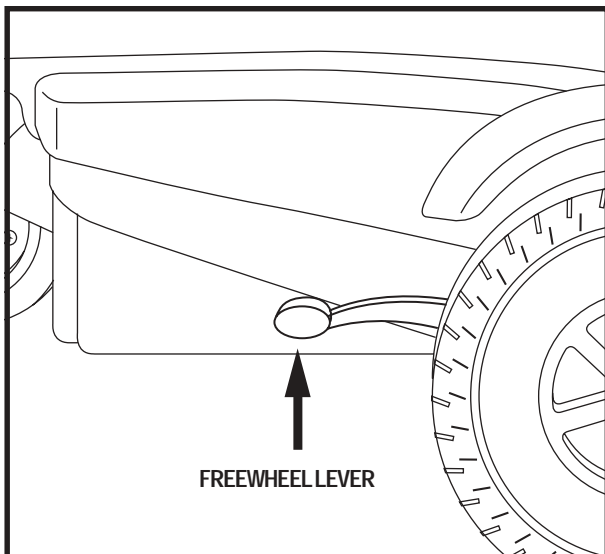

Figure 11. Drive Mode (Drive Engaged)
2. Pull both levers upward to engage the drive motors (drive mode). See figure 11.
2. Make sure that the power chair is in drive mode. See figure 11.